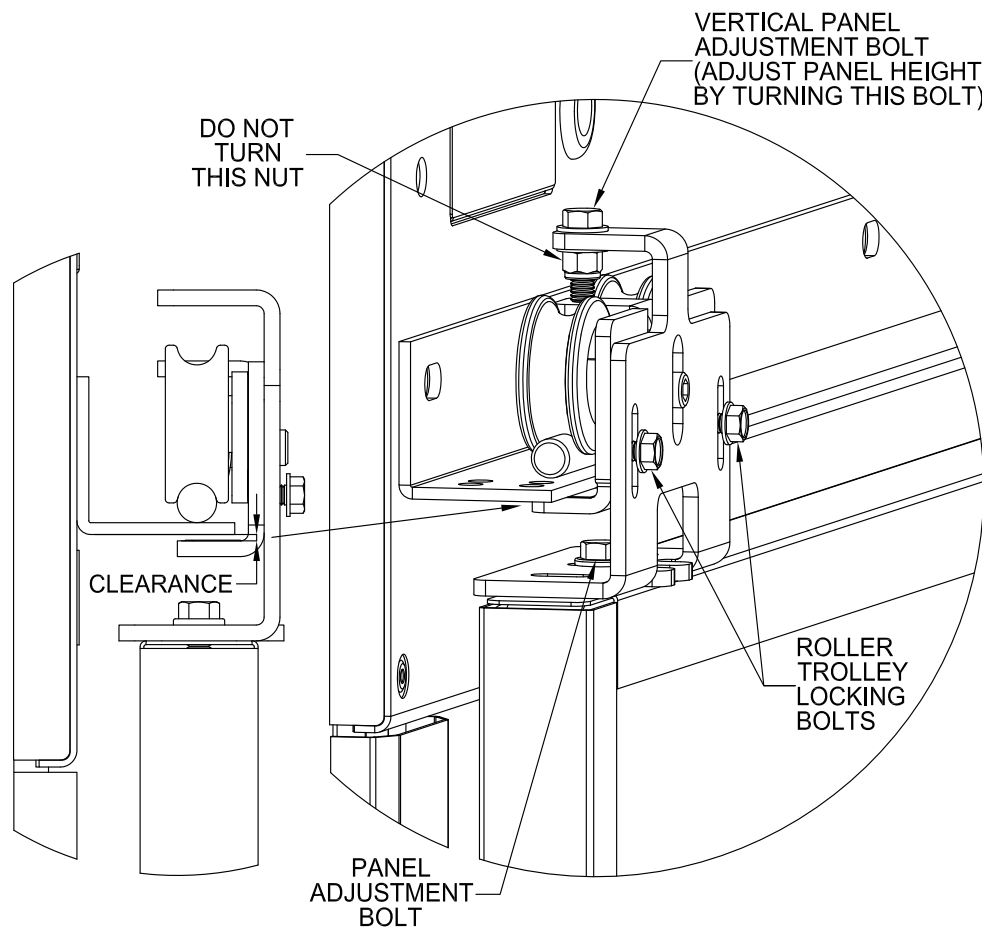

Figure 9: Attaching Panel to Header
3. Mount the header to the wall. Use the holes provided in the header to mount it to the wall (Page 12, Figure 9).
1. Loosen the two horizontal panel adjusting bolts on top of each panel(s). These bolts will slide between the two forks on the panel trolley bracket in the header (Figures 9 & 10).
5. Back off the roller trolley locking bolts on both panel trolleys and use the vertical panel adjustment bolts to position the panel at the desired height. The panel gasket should have contact with the floor for proper sealing. Tighten the locking bolts to secure the panel. Make sure there is clearance between rail and both anti-jump tabs on both trolleys, see Fig. 9.